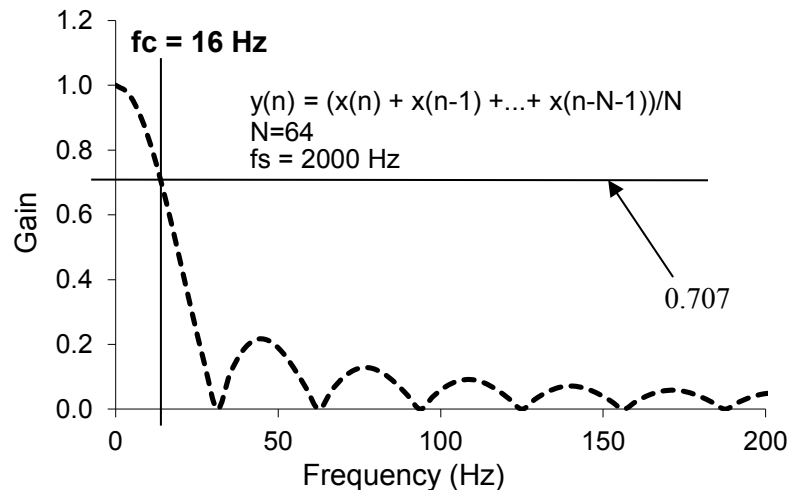

Figure 5. Frequency response of averaging filter with N=64.
If you wish to learn more about the simple averaging filter, open the spreadsheet **FIR_Digital_LowPassFilter.xls** (you should have this in your folder when you opened up the zip file). You can change the sampling rate (fs) and filter size (N) and visualize the frequency and step responses. The two parameters you can adjust are highlighted in yellow. If the sampling rate is 2000 Hz, and the size N is 64, then the filter has a cutoff frequency (fc) of 16 Hz, see Figure 5.